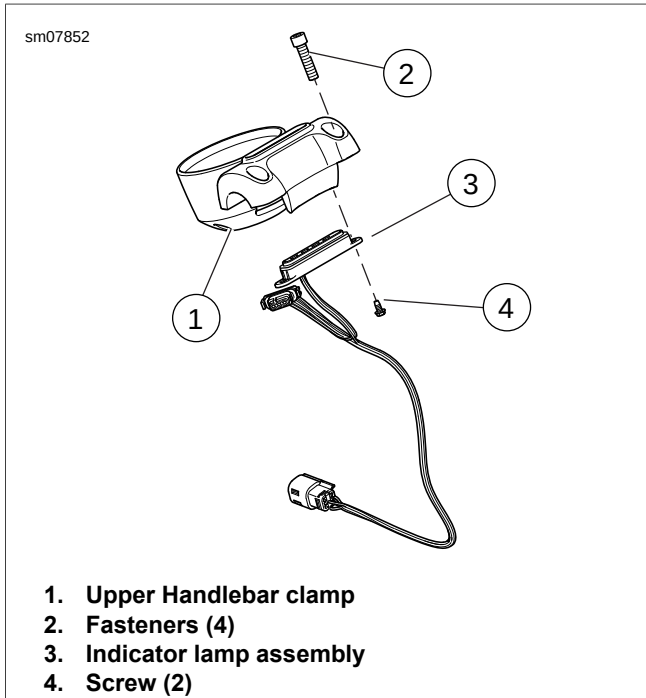

Figure 7-94. Indicator Lamp
- See Figure 7-94. Remove fasteners (2).
- Remove both screws (4) securing indicator lamp assembly (3) to upper handlebar clamp (1).
- See Figure 7-94. Attach indicator lamp assembly (3) to upper handlebar clamp (1) with screws (4). Tighten to 20-30 **in-lbs** (2.3-3.4 Nm).